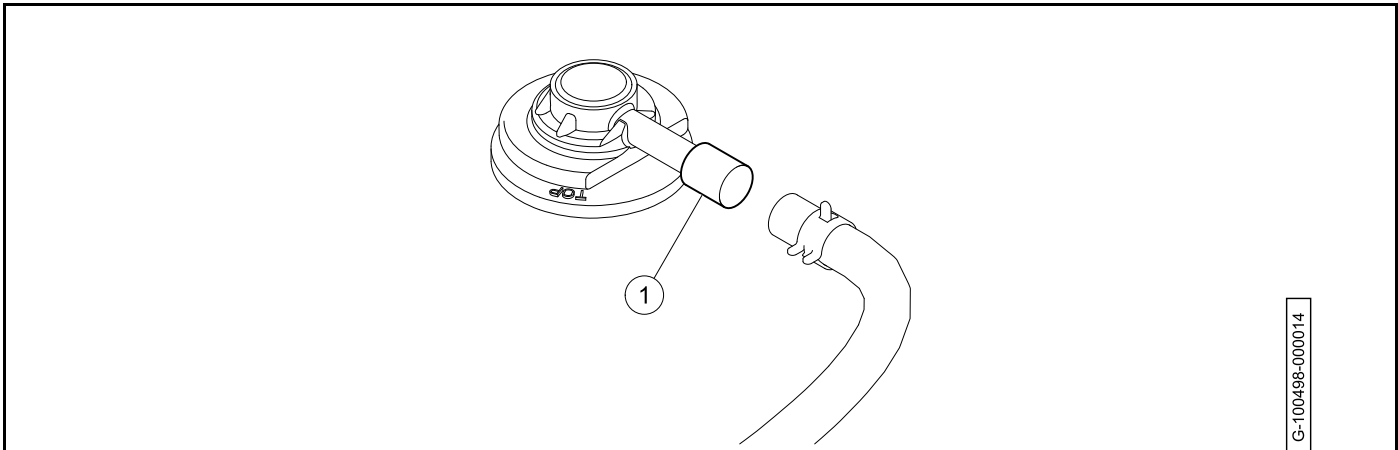

Figure 3-3 Fuel Tank Vent Nipple
- 2.1. Remove and discard the slip-on vinyl cap (1) from the fuel tank vent nipple (Figure 3-3, Page 3-6).